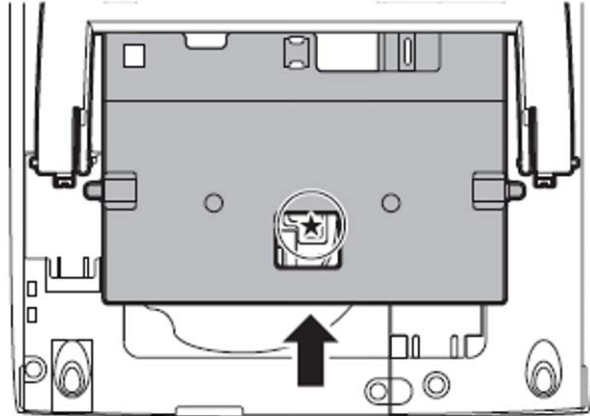

Figure 6-54 Secure Bracket to Terminal
11. Slide the supporting bracket forward until a click is heard (refer to Figure 6-54 Secure Bracket to Terminal).